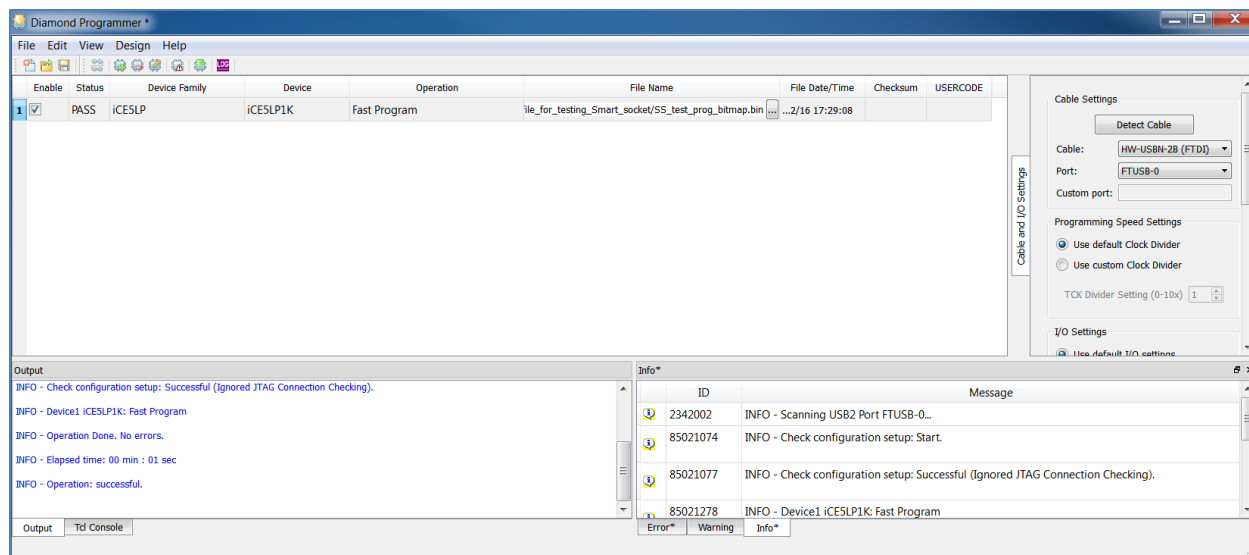

Figure 6.27. iCE40 Family – Programming Completed Successfully
5. When the programming of the device is completed, the **Status** option changes to **PASS** and **Operation: successful** message appears in the **Output** console as shown in Figure 6.27.